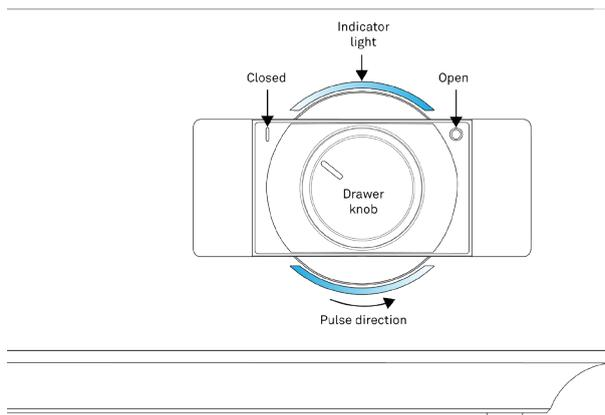

Figure 67 Front-panel drawer knob
- a. Turn the drawer knob counterclockwise (left) to the Closed position to begin the reading (Figure 67).